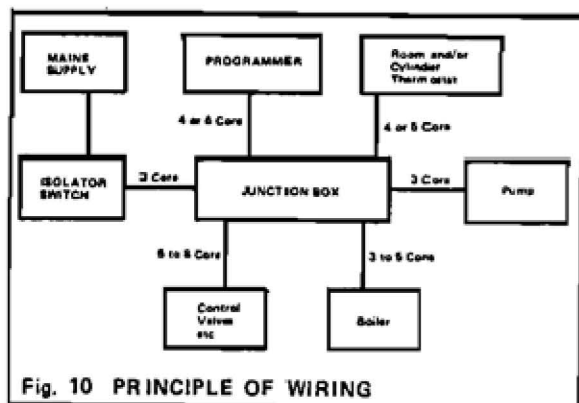

Fig. 10 PRINCIPLE OF WIRING
6. WIRINGS — See Figs. 10, 11, 12 and 13
The principle of wiring up the boiler and site controls is shown in Fig. 10. However, the layout of a particular system will itself govern the most economical location for the junction box and its terminals. Wire up the boiler and system controls as illustrated in Figs. 14, 15, 16 and 17 depending on the type of system installed. The wiring arrangements shown outline only the basic control requirements, and will therefore require on-site interpretation of the various boiler installation requirements.